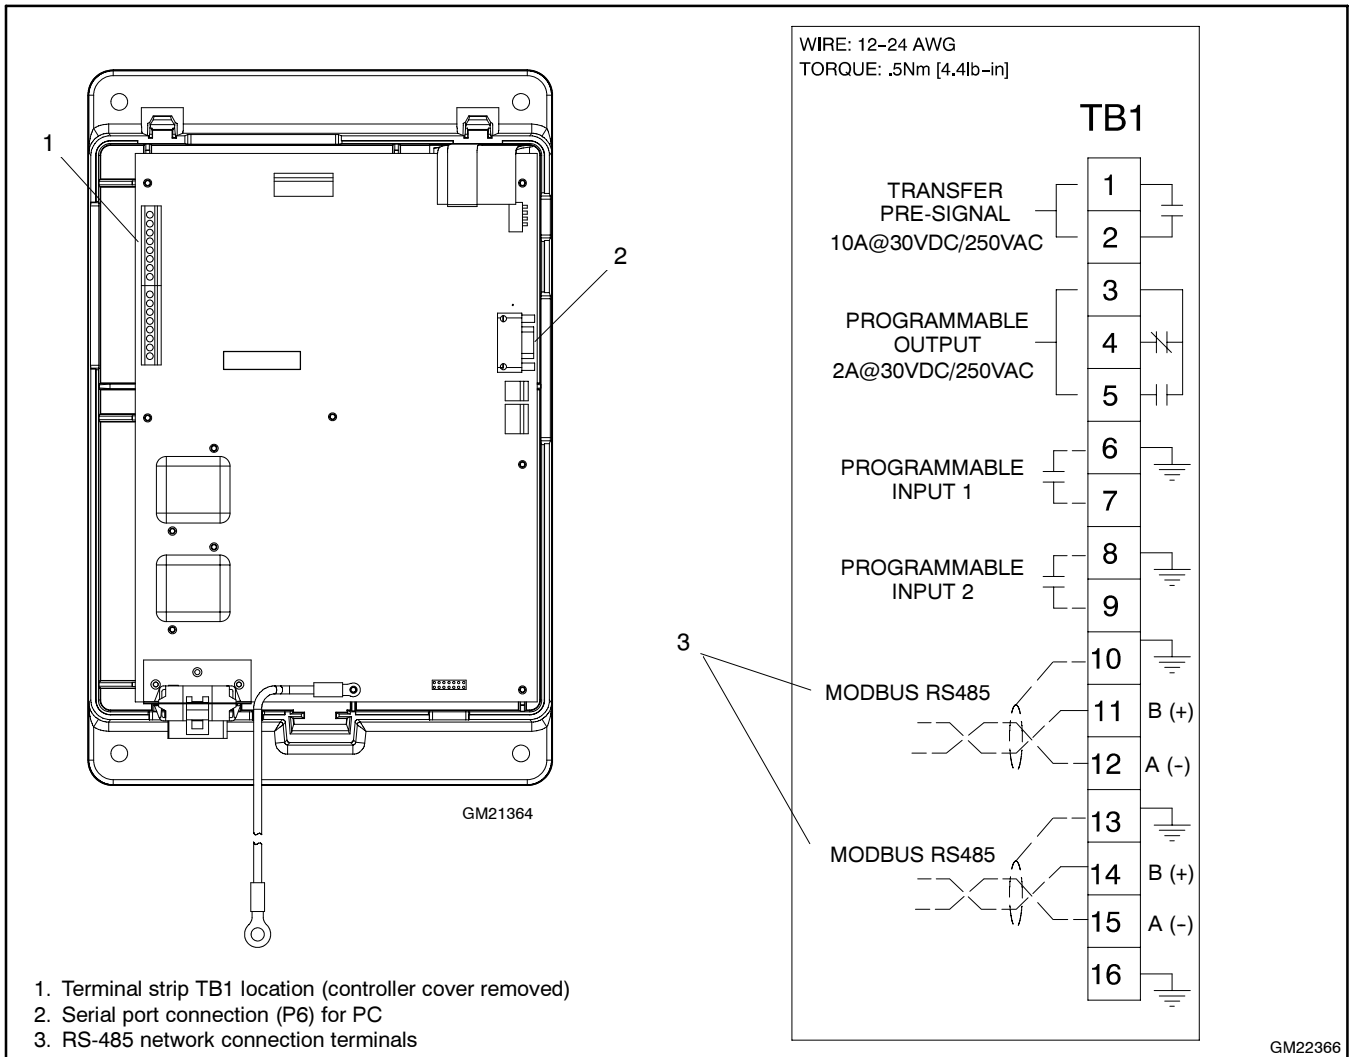
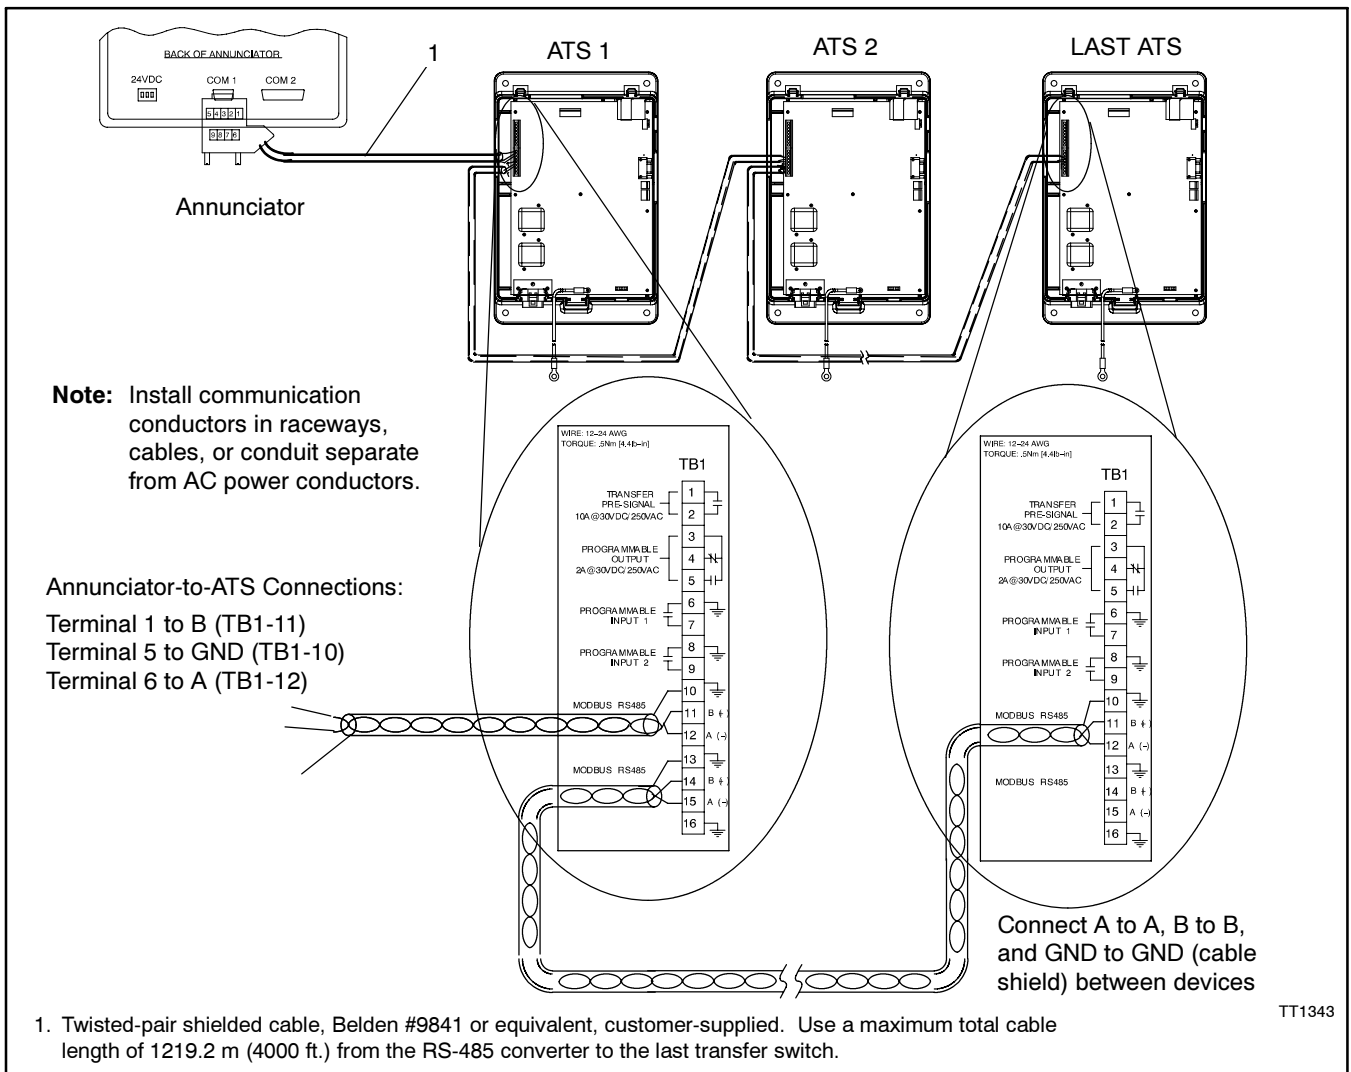

Figure 6 ATS Controller Connection Terminal Block TB1
Figure 8 Annunciator and ATS Network Connections
- a. Connect to programmable input 1 or programmable input 2 on TB1 on the ATS controller's main logic board. See Figure 6.
Connect up to four transfer switches to the annunciator. Connect to the RS-485 terminals on terminal strip TB1 on the transfer switch controller's main logic board. See Figure 6 and Figure 8.
A personal computer running the Setup Program is required to configure the communication parameters for each transfer switch. Use a null modem cable to connect a personal computer to the serial port (P6) on the ATS main logic board. See Figure 6.